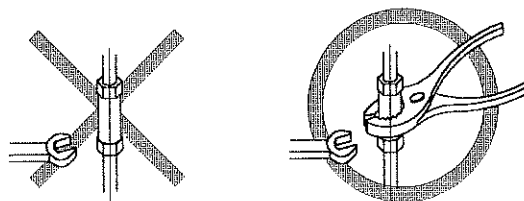

Fig. 12
- (1) When tighten the lock nut, the connector must be secured with plier or spanner to avoid inside electrodes loosen. (See Fig. 12)